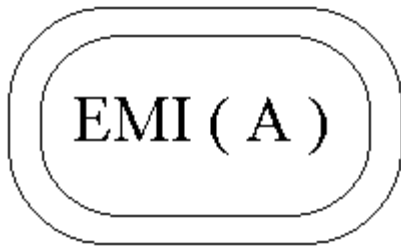

Figure E-3. MOC Class A Regulatory Mark
To determine which classification (Class A or B) applies to your computer system (or other Dell digital device), examine the South Korean Ministry of Communications (MOC) registration labels located on your computer (or other Dell digital device). The MOC label may be located separately from the other regulatory marking applied to your product. The English text, "EMI (A)," for Class A products, or "EMI (B)" for Class B products, appears in the center of the MOC label (see Figures E-3 and E-4).